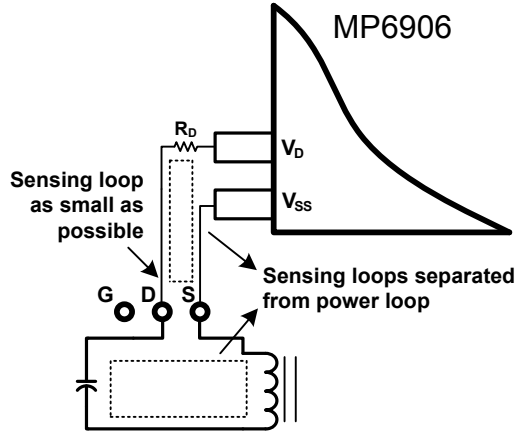
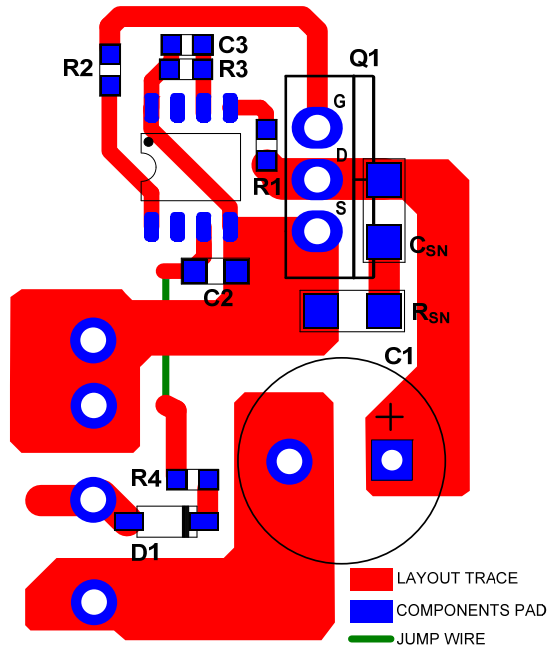
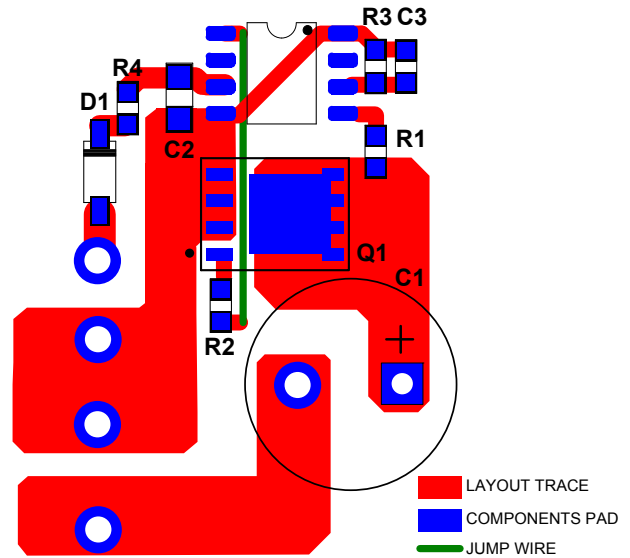

Figure 17: Voltage Sensing for V_d/V_{ss} on MP690
Figure 18: Layout Example with TO220 package SR FET
Figure 19: Layout Example with PowerPAK/SO8 Package SR FET
Efficient PCB layout is critical for optimal operation. For best results, refer to Figure 17, Figure 18, and Figure 19 and follow the guidelines below:
- 3.) Keep the IC out of the power loop to make sure the sensing loop and power loop do not interrupt each other (see Figure 17).
Figure 18 shows a layout example of a single layer with a through-hole transformer and a TO220 package SR FET . R_{SN} and C_{SN} are the RC snubber network for the SR FET.
Figure19 shows another layout example of a single layer with a PowerPAK/SO8 package SR FET, which also has a minimized sensing loop and power loop to avoid the loops interfering with one another.